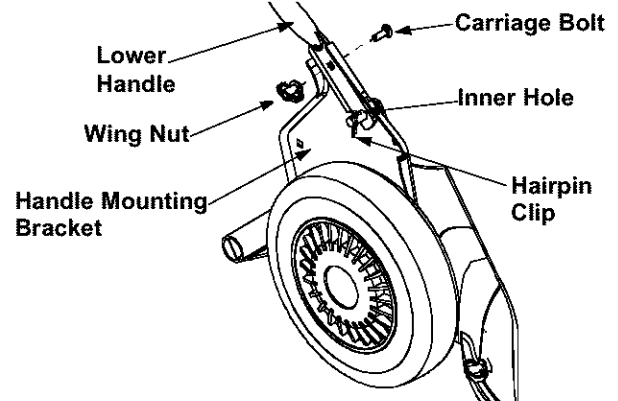

Figure 3
- Remove the hairpin clips from the outer hole in the weld pins on the handle mounting brackets. Using a pair of pliers, squeeze one leg of the mower handle against the handle mounting bracket. Insert the hairpin clip into the inner hole on the weld pin. Repeat on other side. See Figure 3.